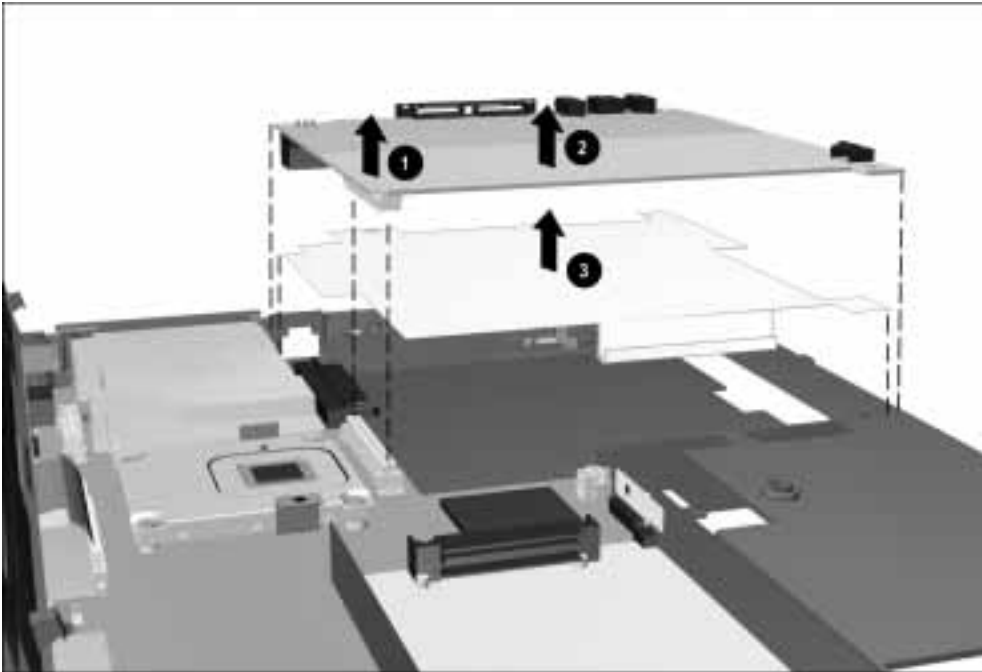

Figure 5-29. Removing the Audio/Modem Board and MultiBay Shield
3. Lift up on the rear left corner of the audio/modem board ❶ to disconnect the board from the system board (Figure 5-29).
4. Remove the audio/modem board from the computer ❷.
5. Remove the MultiBay shield from the computer ❸.